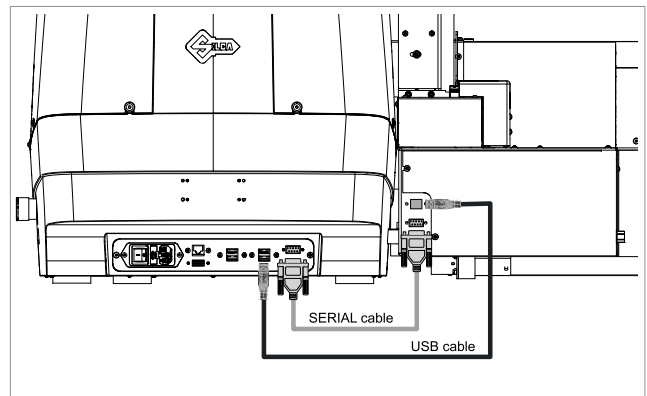

Fig. 35
- 4) Connect the USB and serial cables to the machine and feeder (Fig. 35).